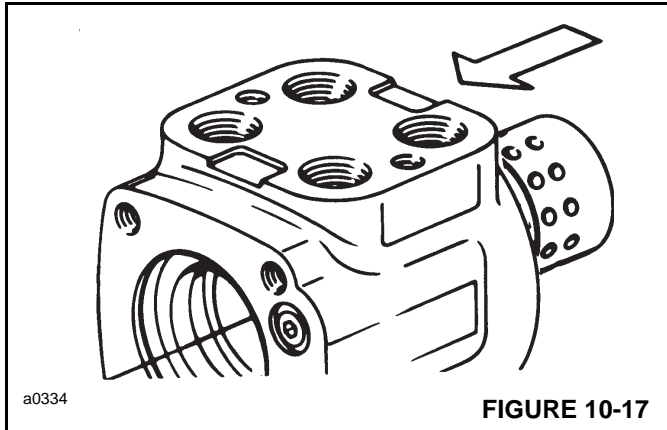

FIGURE 10-17
11. Lubricate the spool and sleeve assembly and position the assembly so that the splined end of the spool enters the meter end of housing (8, Figure 10-9). See Figure 10-17.